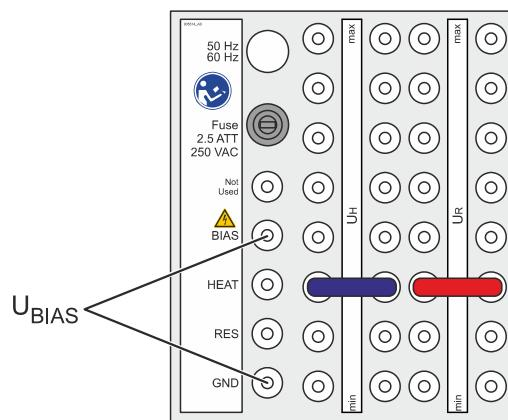

Figure 128: Measuring the bias voltage
7. Measure U_{BIAS} between the jacks GND and BIAS (see Figure 128).